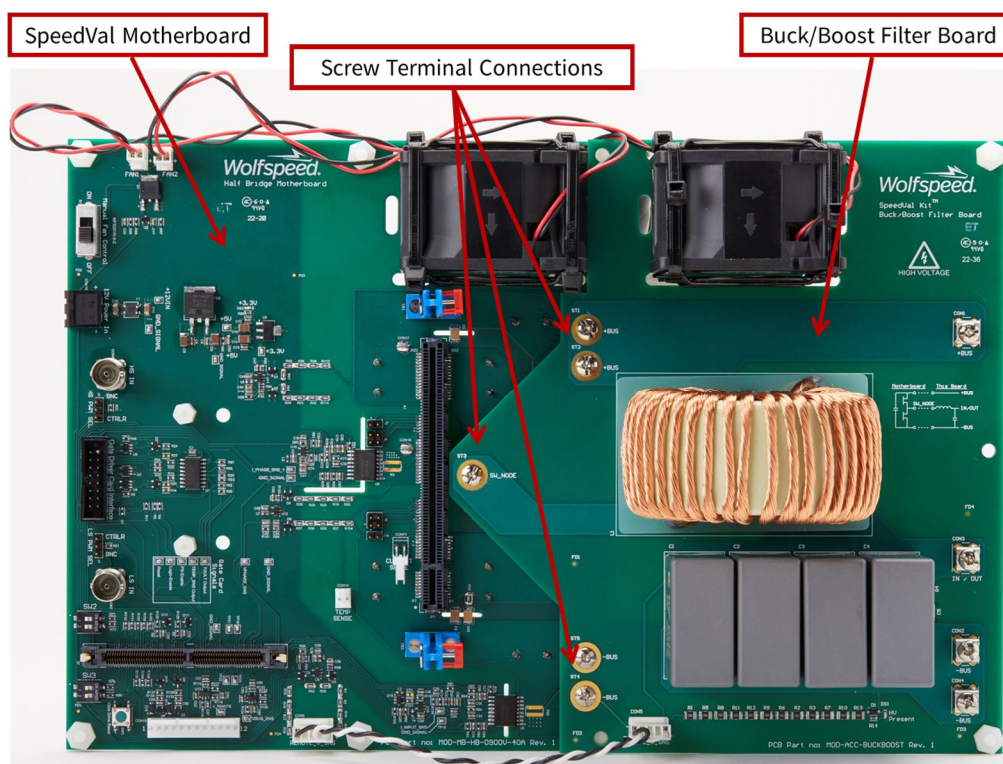

FIGURE 1: SPEEDVAL KIT MOTHERBOARD WITH BUCK/BOOST FILTER BOARD ASSEMBLY
- The Buck/Boost Filter Board needs to be connected using screw terminals as shown in **Error! Reference source not found.** Figure 1. These terminals pass the high-current positive and negative bus connections as well as the switch node between the motherboard and buck/boost filter board.